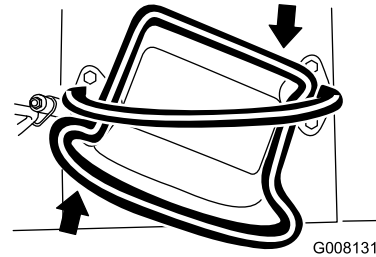

Figure 9
- To turn right, rotate the traction control clockwise (Figure 9).